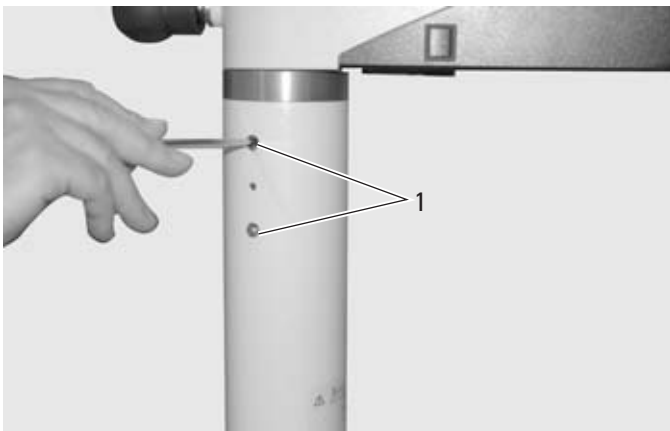

Fig. 1
⇒Screw the swing arm tight with 2 Allen screws (1) (Fig. 1).